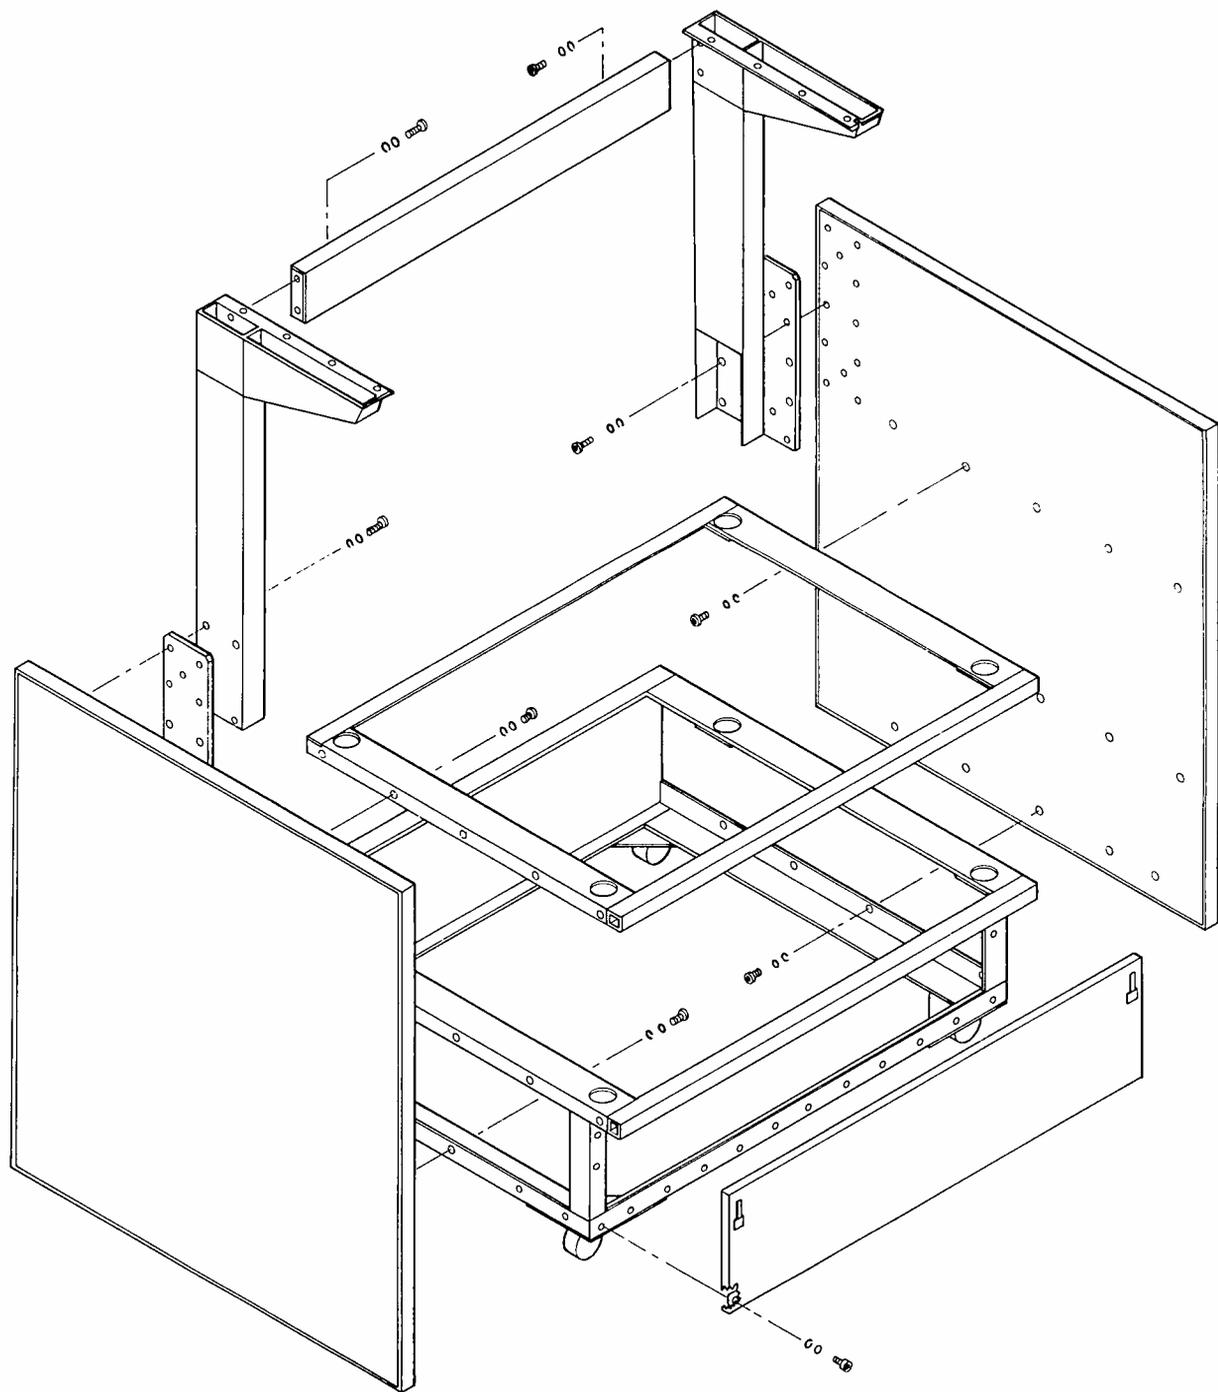

Figure 2-1. Exploded View, AVR-2 Console
1. Select an area free from obstruction and set the lower console frame (see Figure 2-1) on its casters.
2. Select one of the side panels (see Figure 2-1) and fasten it to the lower console frame using eight 1/4 x 5/8-inch hex socket capscrews. Use a 1/4-inch spring lockwasher and a 1/4-inch plain washer with each capscrew. Do not completely tighten the screws.
1. Fasten a spacer plate (see Figure 2-1) to the inside, near the top rear, of each side panel of the console. Use two number 8 spring lockwashers and two 8-32 x 7/16 hex socket capscrews for each spacer. Align the spacer plate so that four holes are aligned with the captive nuts in the side panel. These are used to mount the bridge support columns.